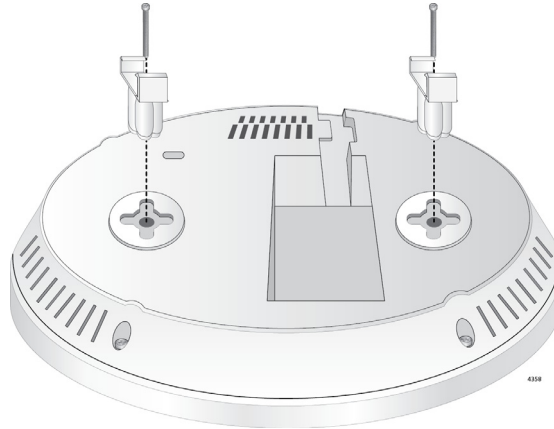

Figure 27. Attaching the Rail Clips and Spacers to the Access Point
3. Attach two rail clips and the spacers to the access point using the long screws as shown in Figure 27.